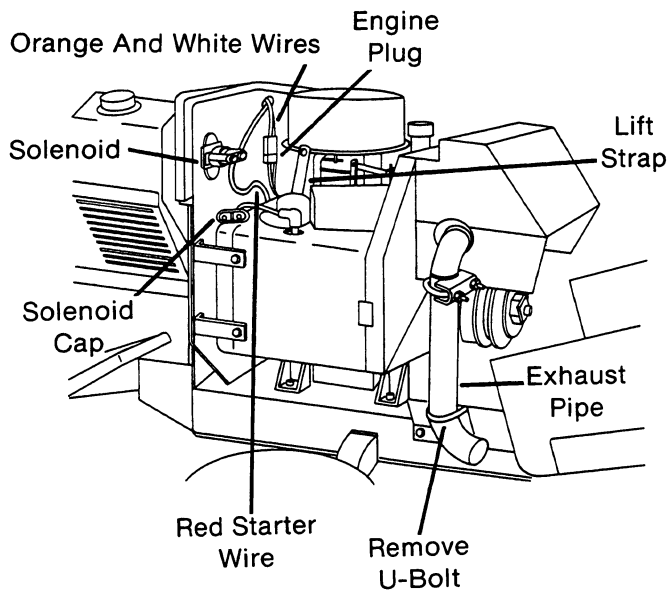

FIG. 3
- c. Remove cap on solenoid and disconnect red starter wire at solenoid. (Fig. 3)
- G. Remove two nuts and lockwashers on U-bolt securing exhaust pipe to engine mounting bracket. (Fig. 3)